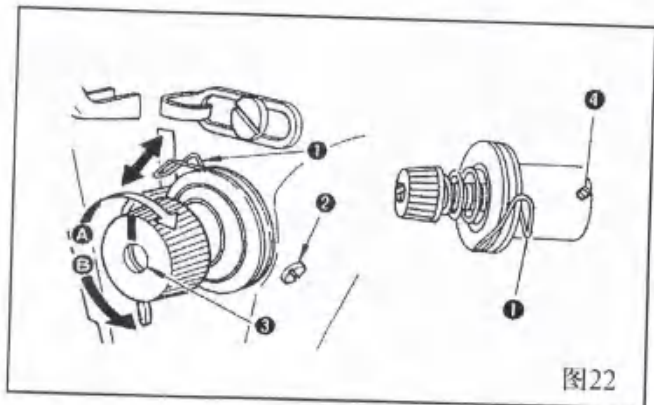

图22
- 1) As you turn tension adjust screw ③ clockwise(in direction E), the bobbin thread tension will be increased.
- 2) As you turn screw ③ counterclockwise(in direction F),the bobbin thread tension will be decreased.
17. 挑线簧调节 (图22) THREAD TAKE-UP SPRING (FIG.22)